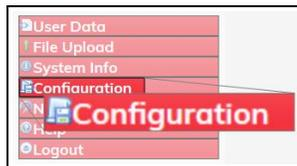

Figure 251: Configuration link
4. On the **Menu** list, click the **Configuration** link. Figure 251